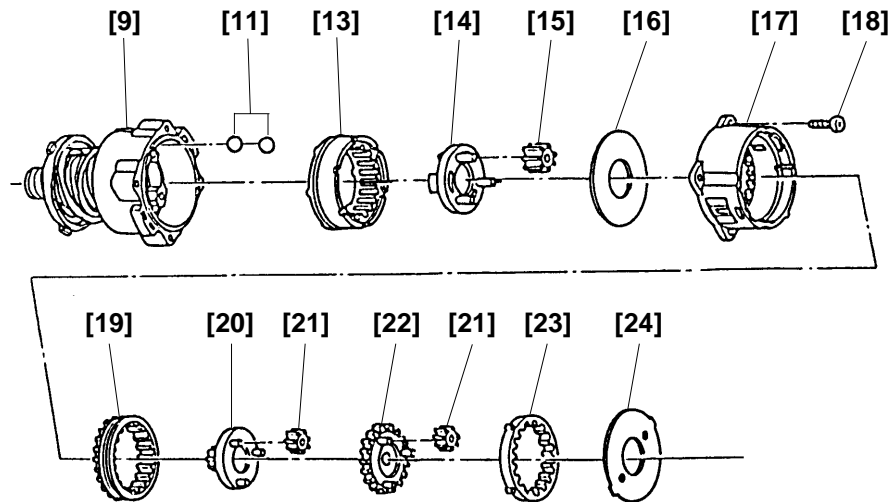

Fig. 12
(b) Install the parts series from Steel Ball **[11]** to Washer (B) **[24]** to the assembly from step (3). (See Fig. 12)